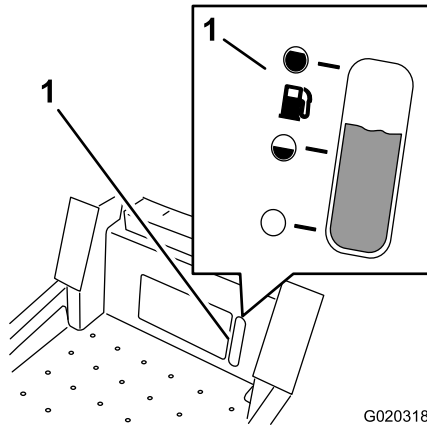

Figure 7
The fuel window located below the operator position can be used to verify the level of gasoline in the tank (Figure 7).
Use the fuel window below the operator to verify the level of gasoline before filling the tank (Figure 7).
**Note:** You can use the fuel window below the operating position verify the presence of gasoline before filling the tank (Figure 7).